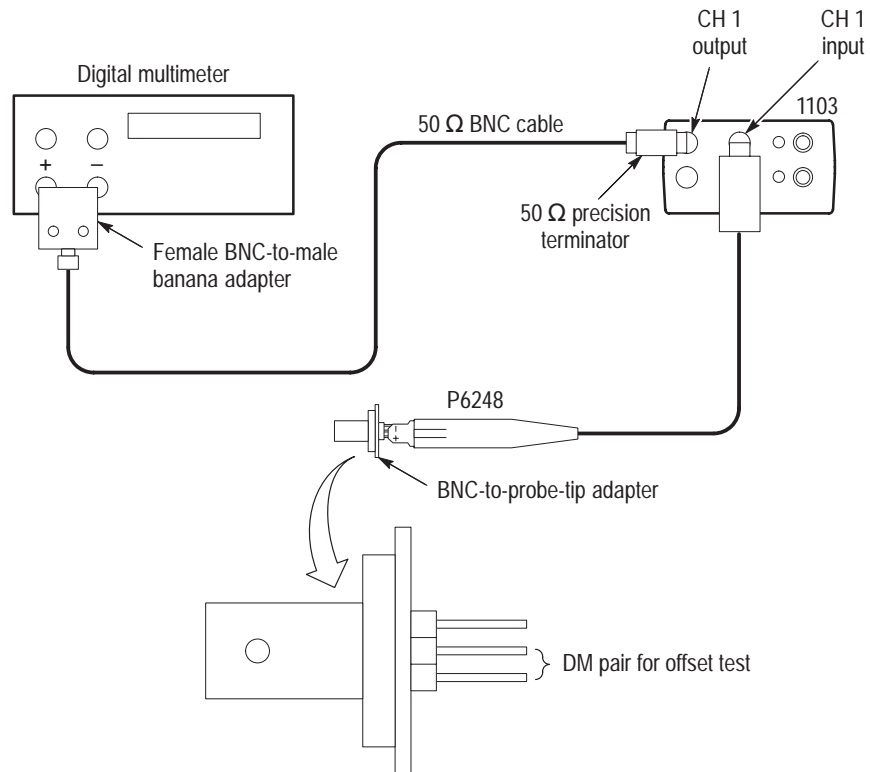

Figure 4: Setup for the output offset voltage test
1. Connect the probe as shown in Figure 4.